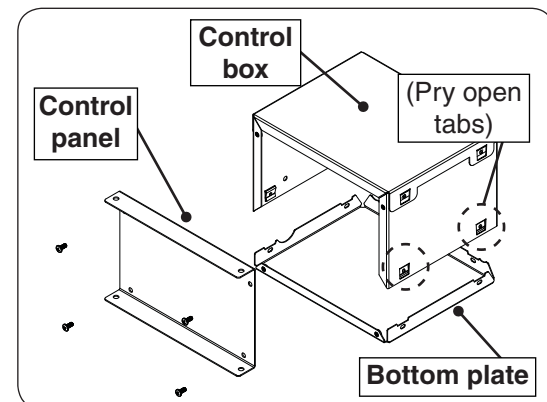

Fig. 37-5 Control panel interior access
3. Once the control box is accessible, remove the bottom plate by using a screwdriver to pry open the tabs found along the box. The control panel can also be removed by unfastening the 4 screws that are securing it to the box. See Fig. 37-5.